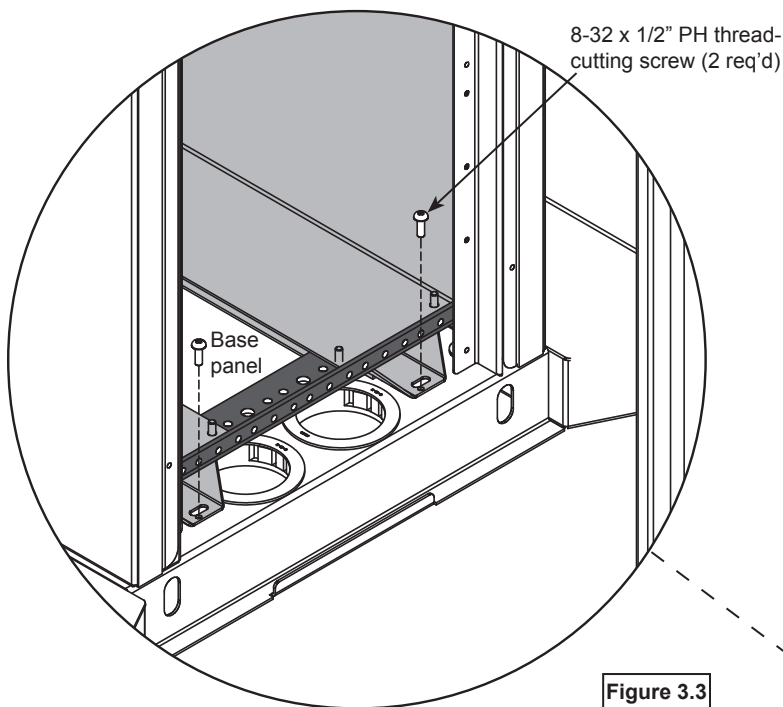

Figure 3.3
3. Align the cube with the mounting holes in the base panel and use (2) 8-32 x 1/2" PH thread-cutting screws (1 through each bracket) to secure to base panel. **Figure 3.3.**